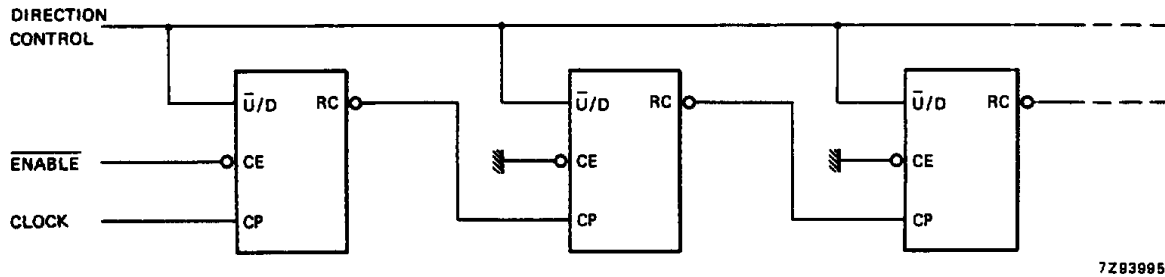
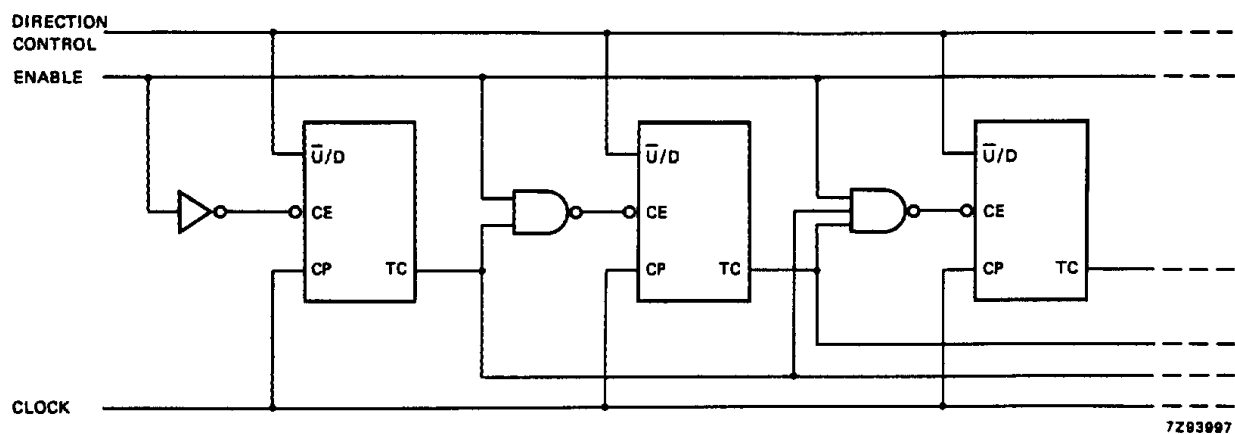

Fig.5 N-stage ripple counter using ripple clock.
Fig.7 Synchronous n-stage counter with parallel gated carry/borrow.
Overflow/underflow indications are provided by two types of outputs, the terminal count (TC) and ripple clock (\overline{RC}). The TC output is normally LOW and goes HIGH when a circuit reaches zero in the count-down mode or reaches "15" in the count-up-mode. The TC output will remain HIGH until a state change occurs, either by counting or presetting, or until \overline{UD} is changed. Do not use the TC output as a clock signal because it is subject to decoding spikes. The TC signal is used internally to enable the \overline{RC} output. When TC is HIGH and \overline{CE} is LOW, the \overline{RC} output follows the clock pulse (CP). This feature simplifies the design of multistage counters as shown in Figs 5 and 6.
In Fig.5, each \overline{RC} output is used as the clock input to the next higher stage. It is only necessary to inhibit the first stage to prevent counting in all stages, since a HIGH on \overline{CE} inhibits the \overline{RC} output pulse as indicated in the function table. The timing skew between state changes in the first and last stages is represented by the cumulative delay of the clock as it ripples through the preceding stages. This can be a disadvantage of this configuration in some applications.
In Fig.7, the configuration shown avoids ripple delays and their associated restrictions. Combining the TC signals from all the preceding stages forms the \overline{CE} input for a given stage. An enable must be included in each carry gate in order to inhibit counting. The TC output of a given stage is not affected by its own \overline{CE} signal therefore the simple inhibit scheme of Figs 5 and 6 does not apply.